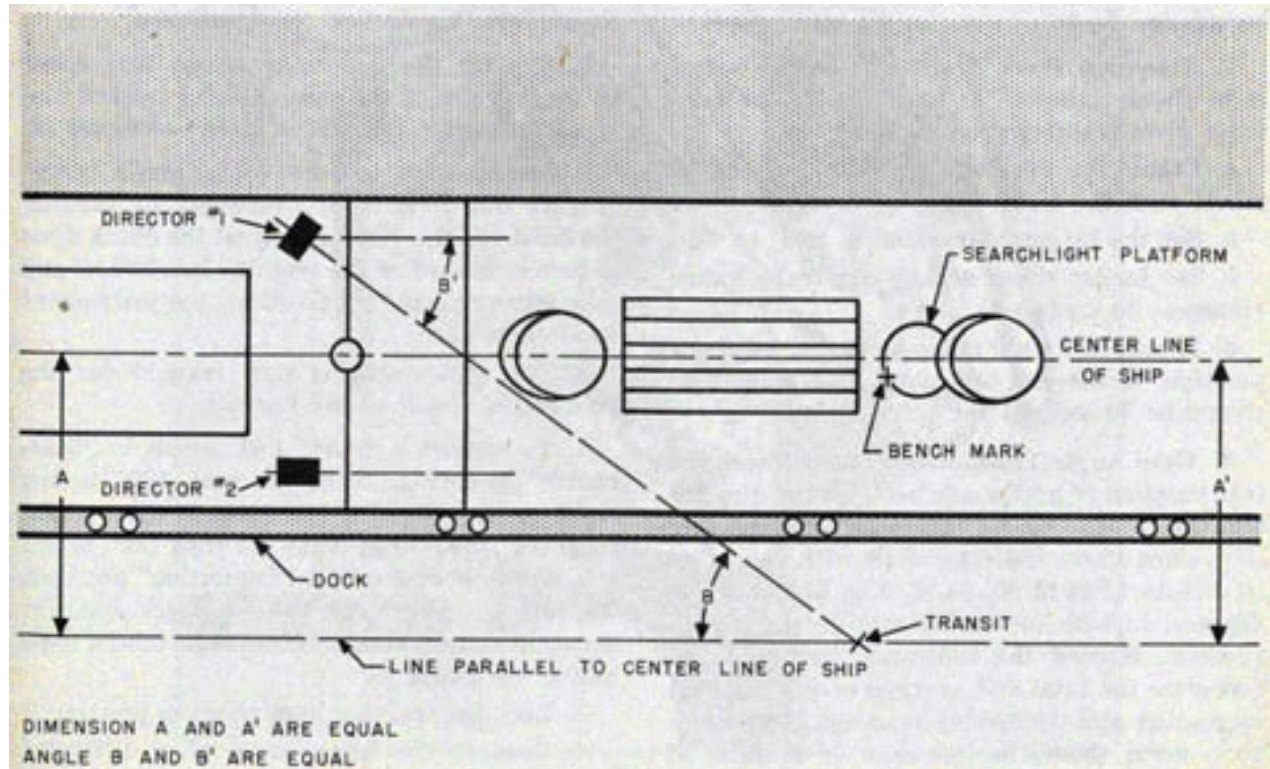

Figure 84-Diagram for director alignment and establishment of bench mark.
2. On the dock and alongside of the ship, establish a fore and after line with a transit. See figure 84. The procedure involved for doing this is described in OP 762.